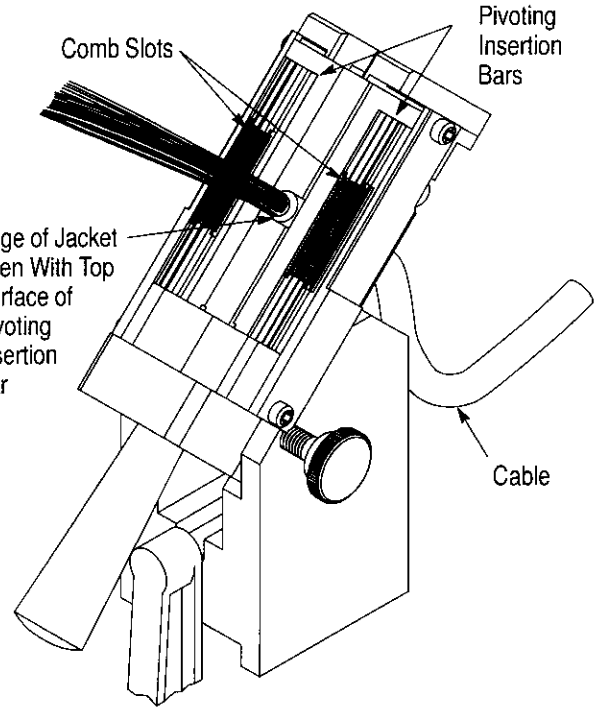

Figure 6
After the cable is stripped to the appropriate length, the cable is positioned in the lower tooling assembly as shown in Figure 6. A cable clamp on the rear of
2. Clamp prepared cable in cable clamp between pivoting insertion bars with the discrete wires pointing up toward operator. Edge of jacket must be even with the top surface of the pivoting arms. See Figure 6.